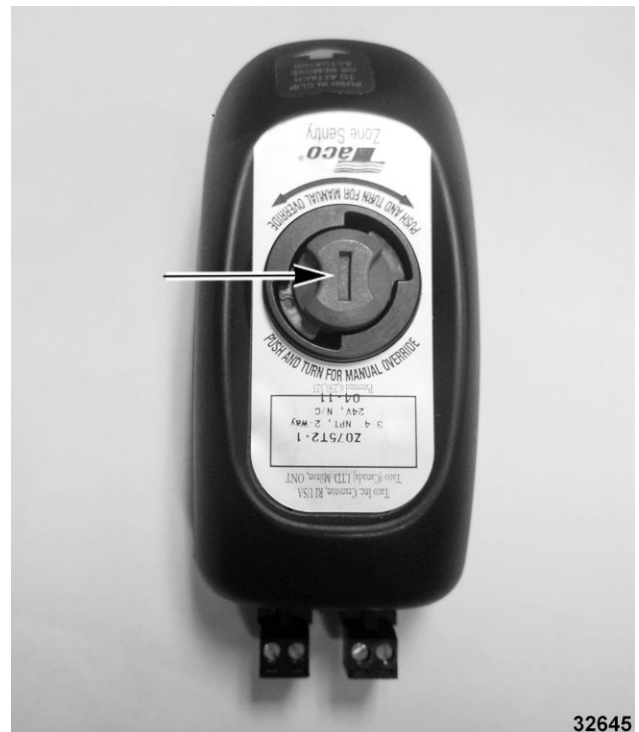

Fig. 62
- A. Push in and turn knob 90° counterclockwise to open (Fig. 62).